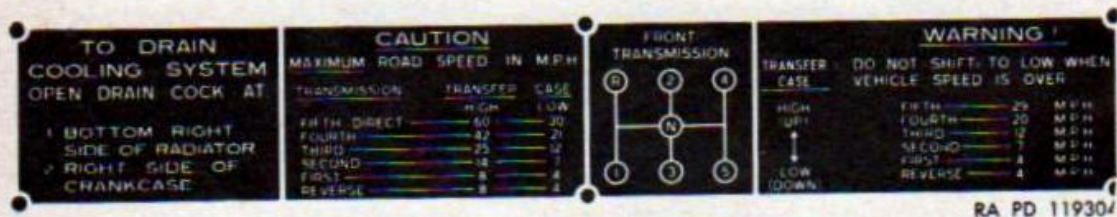

Figure 10. Instruction data plate.
c. INSTRUCTION DATA PLATE. The instruction data plate (fig. 10), located at left end of instrument panel (D, fig. 14), includes draining instructions for the cooling system, gearshift diagrams and instructions (figs. 17 and 19), and maximum allowable truck speeds in various shift positions (figs. 18 and 20).